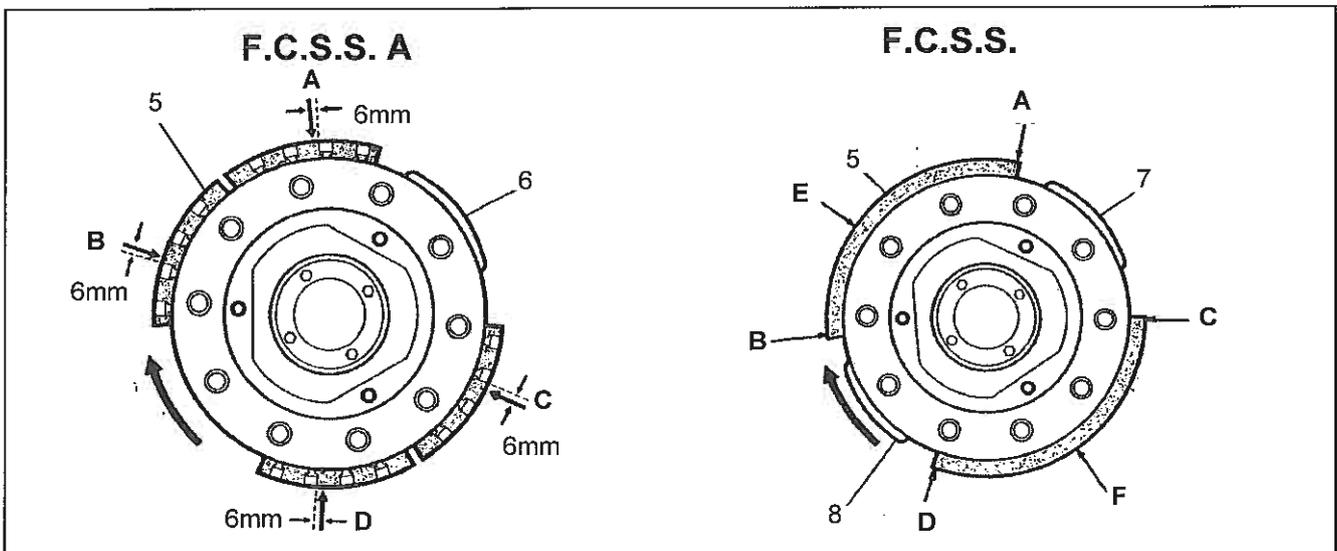

Fig 4
4. Centralise the trailing shoe (5), so that the pointer lightly touches the lining at points A and B (Fig. 4). The arrows indicate forward direction of rotation. For FCSSA brakes (6) is the cam housing, for FCSS brakes (7) is the expander and (8) the adjuster.